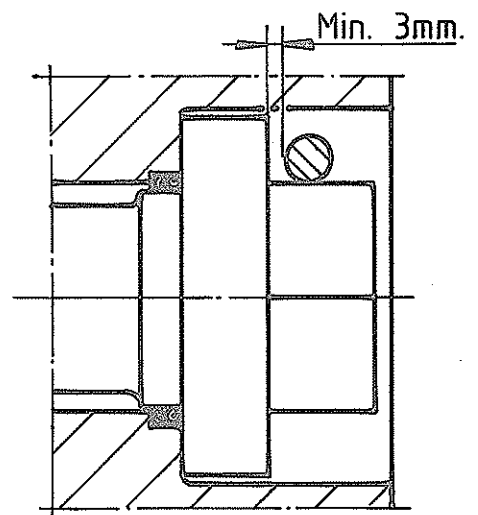

Figure 1.
1. Låspinnen pressas mot skruvskallens nyckelgrepp enligt bild 1.
1. The locking pin is to be pressed against the key handle of the screw head according to figure 1.